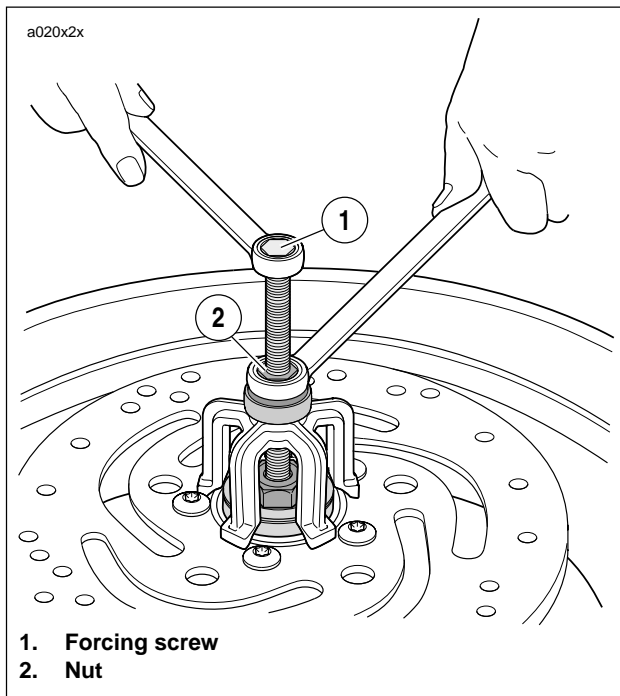

Figure 2-14. Remove Bearing
4. See Figure 2-14. When expanded collet has gripped bearing edges, hold end of forcing screw (1) and turn the nut (2) to remove bearing from wheel.